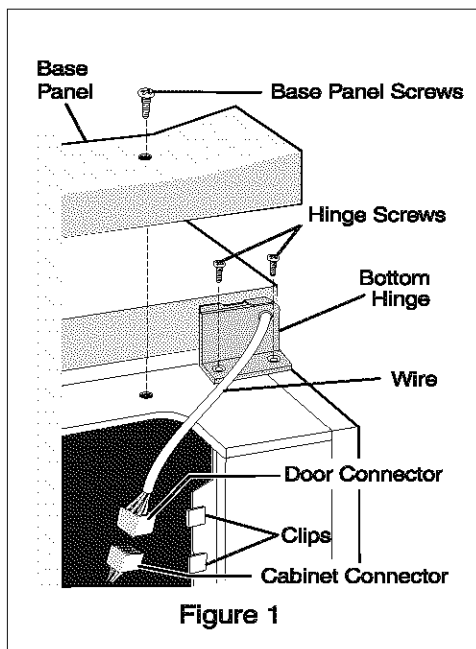

Figure 1
2. Remove two base screws and base panel. Remove wire from clips on bottom of cabinet. (Figure 1)
3. Unplug connector by holding the cabinet connector in place, and pulling door connector out. (Figure 1)
4. Remove bottom hinge screws. (Figure 1)
- **On upright models** with a defrost drain (Figure 1), remove the drain plug on the inside floor of the freezer by pulling straight out. To access the external drain tube on models with a base panel, first remove the two screws from the base panel. Locate the drain tube near the left center under the freezer. Place a shallow pan under the drain tube. Defrost water will drain out. Check pan occasionally so water does not overflow. A $\frac{1}{2}$ inch garden hose adaptor can be used to drain the freezer directly into a floor drain. If your model is not equipped with an adaptor, one can be purchased at most hardware stores. Replace the drain plug when defrosting and cleaning are completed. If the drain is left open, warm air may enter the freezer.